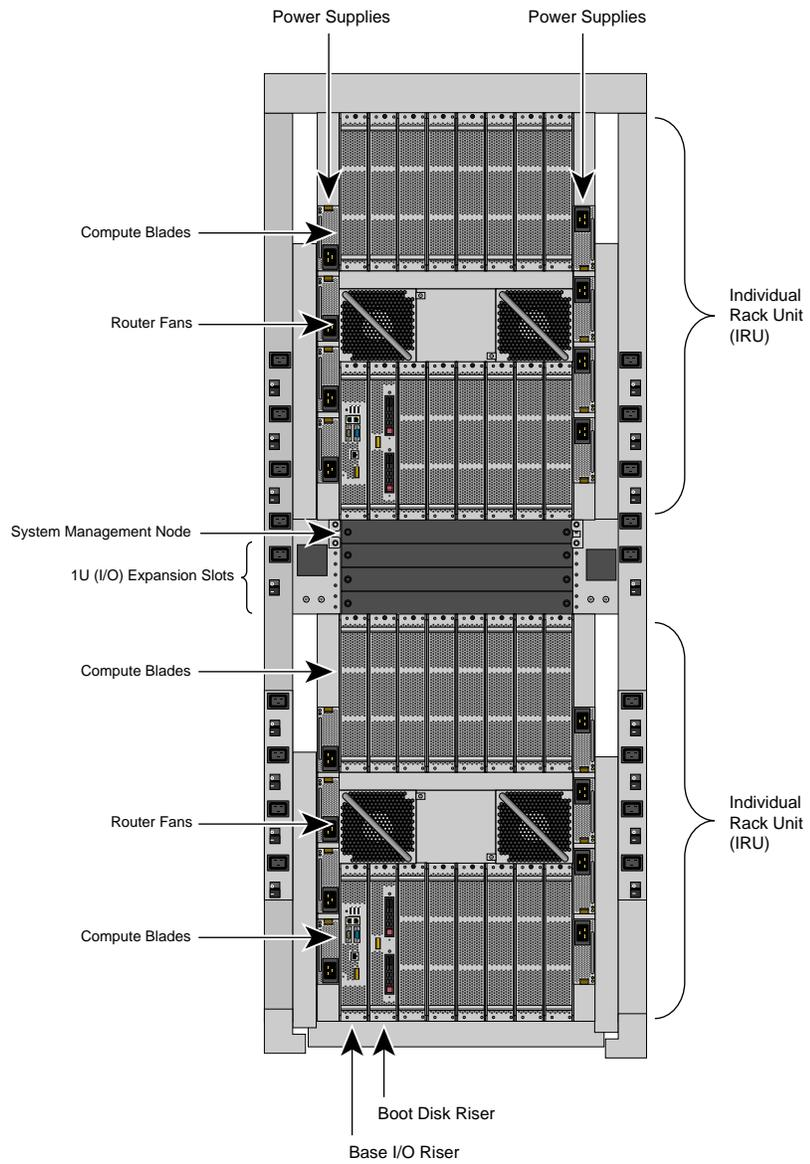
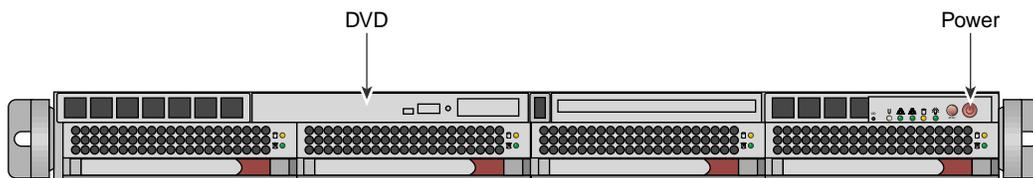

Figure 1-4 SGI Altix UV 1000 System Rack
Figure 1-5 System Management Node Power On Button and DVD Drive
The system management node (SMN) is either located in the top 1U slot between the individual rack units (IRUs) or at the top of the rack as shown in Figure 1-4 on page 11. Figure 1-5 on page 12 shows an image of an SMN.
1. Turn on, reset, or reboot the SMN. The power on button is on the right of the SMN, as shown in Figure 1-5 on page 12.
2. Insert the SLES 11 Service Pack 1 DVD in the DVD drive on the left of the SMN as shown in Figure 1-5 on page 12.